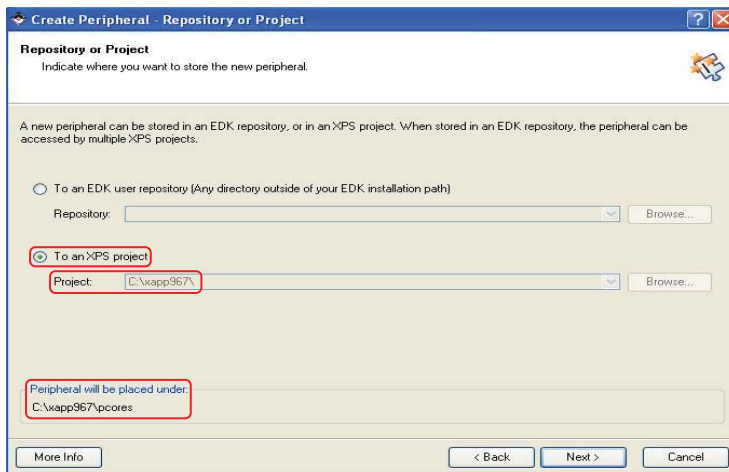

Figure 7: IPIF Template Repository Selection
- In the Repository or Project window shown in Figure 7, select **To an XPS project**. In the Project field, select `$\xapp967\`. In the Peripheral will be placed under: field, select `C:\xapp967\pcores`, then click **Next**.